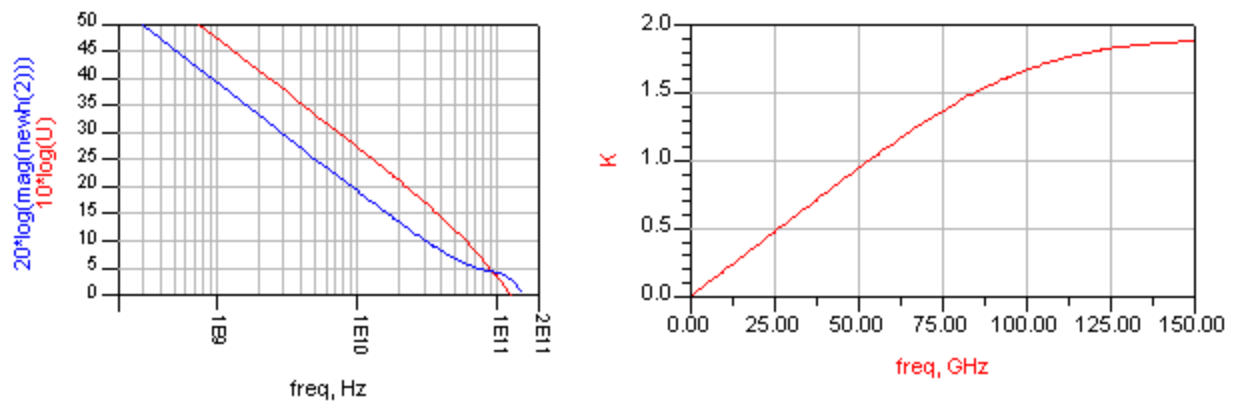

Figure 1.6 Data Display for MESFET small signal model simulation.
Simulate the small signal model for a high frequency MESFET (Figure 1.5). Perform an S-parameter simulation and use the resulting data to calculate the hybrid matrix (H-parameters), Rollett stability factor (K), and Mason's invariant (U). Replicate the data display of Figure 1.6.
4. Replicate the data display page of Figure 1.6. Insert equations to calculate the hybrid matrix (H-parameters), the Rollett stability factor (K), and Mason's invariant (U). The meaning and significance of these parameters will be covered later in the course; for now, they are presented only to give you practice in using ADS.
- 6. When you have successfully replicated the data display of Figure 1.6, **Save** your display as "**ex4_MESFET**".